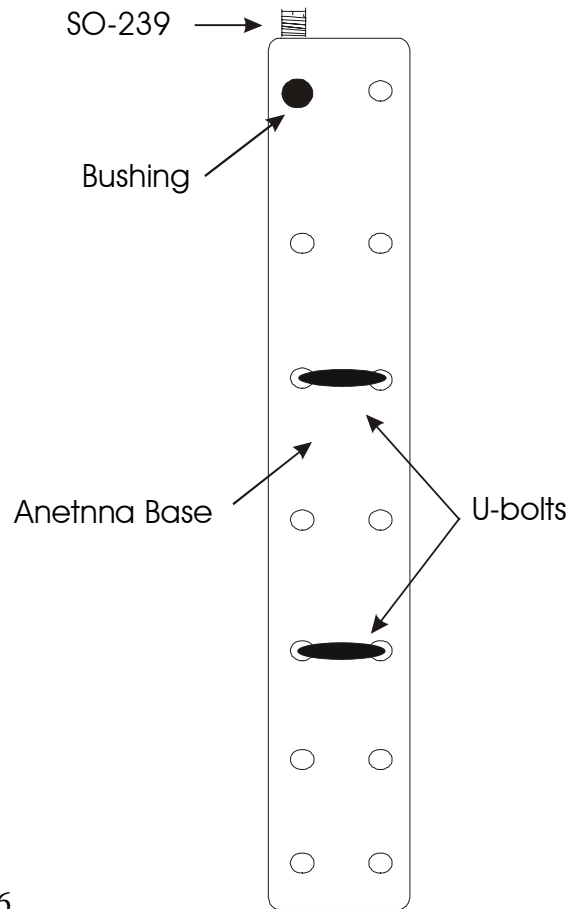

Figure 6
- [] 2. The SO-239 connector, supplied with the base, should then be installed on the top of the base plate mount as indicated in Figure 6 using two 6/32" x 3/8" screws and keps nuts supplied with the base. One of the feed-points at the bottom of the base may also be used. The insulated wire supplied with the MFJ-1904 will be long enough for this application. This will increase the radiating length of the antenna.